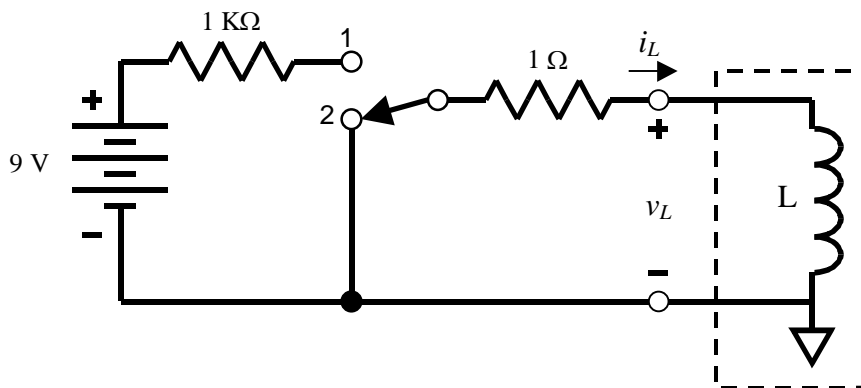

Figure P2-2 RL switched circuit.
2.b (25 points) (i) Build the circuit of Figure P2-2 using the simulated inductor you built in step 2a. Note that the battery in P2-2 is also the +9V supply for the op amp. Set up to monitor inductor current, either directly with your
Note: Simulated inductors have some limitations. First, one terminal has to be at the neutral, (the - terminal in figure P2-2) which limits the types of circuits that can be created (but is fine for us). Second, op amp saturation limits the range of response. Third, there can be initialization issues. Also, problems getting the simulated inductor to work are often due to the op amp power supply. Remember that the +9V and -9V supplies are with reference to the neutral, or ground, node, so the 9V batteries must be connected at one end to the ground node. See Lab 3 for a circuit diagram showing specific power supply connections.